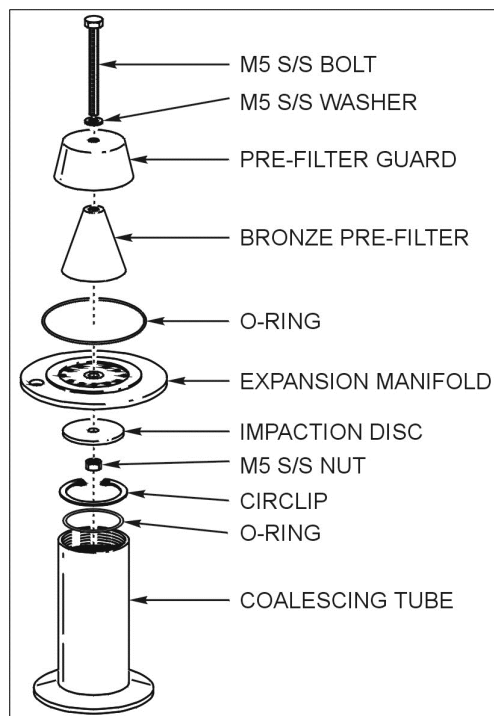

Figure 13 Disassembly
- Disassemble all components by removing the M5 Screw. See Figure 13.